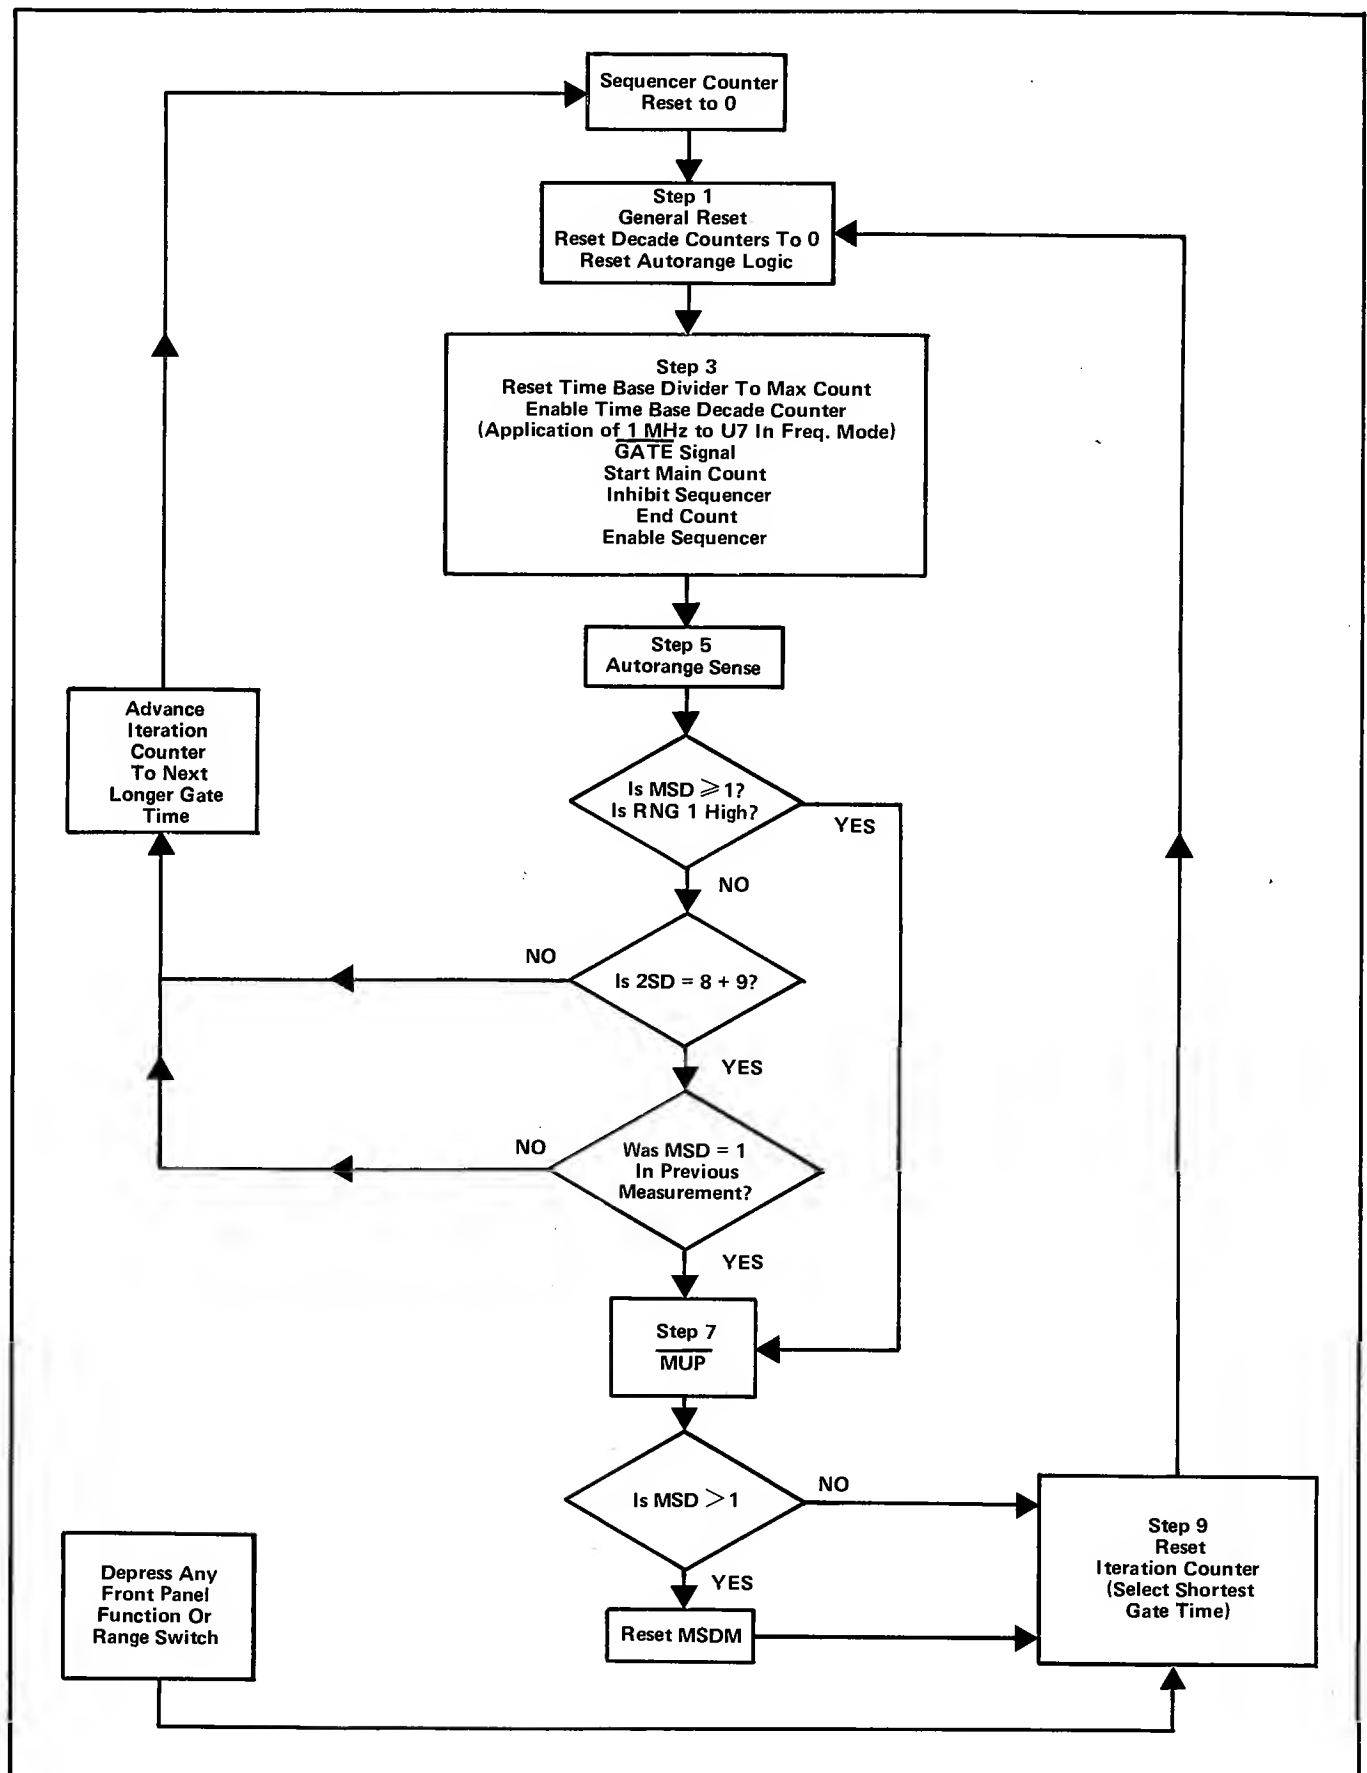

Figure 3-2. 1900A SEQUENCE FLOW CHART
gram control section, begins with step 9. Refer to figure 3-2. Range logic is reset to the shortest gate time. A new measurement always begins with the shortest gate time. Any time a front panel switch is depressed, a new measurement is initiated by resetting the program control to step 9. The next event is general reset (GR), step 1. All the decade counters are set to 0 and the autorange logic is reset. Step 2 is skipped as only odd numbered steps are used to order events. At step 3 the time base dividers in the time base and the range control sections are enabled. The count is initiated by enabling the main gate to apply data to the first decade counter. The signal from the input section is applied to the clock input and toggles the counter. The output from the first counter is used to toggle the subsequent counters. At the end of the measurement period, the main gate is disabled and the count is held.
plained under Frequency Mode. Figure 3-2 is a flow chart of the sequence of events in the 1900A.